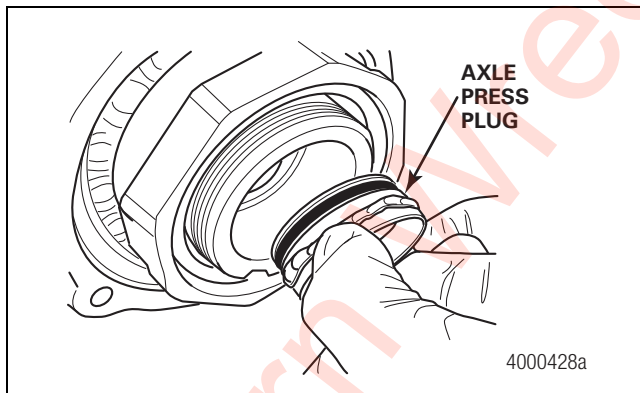

Figure 2.21
16. Insert the axle press plug into the spindle bore by hand until the plug stops in the bore. Figure 2.21.